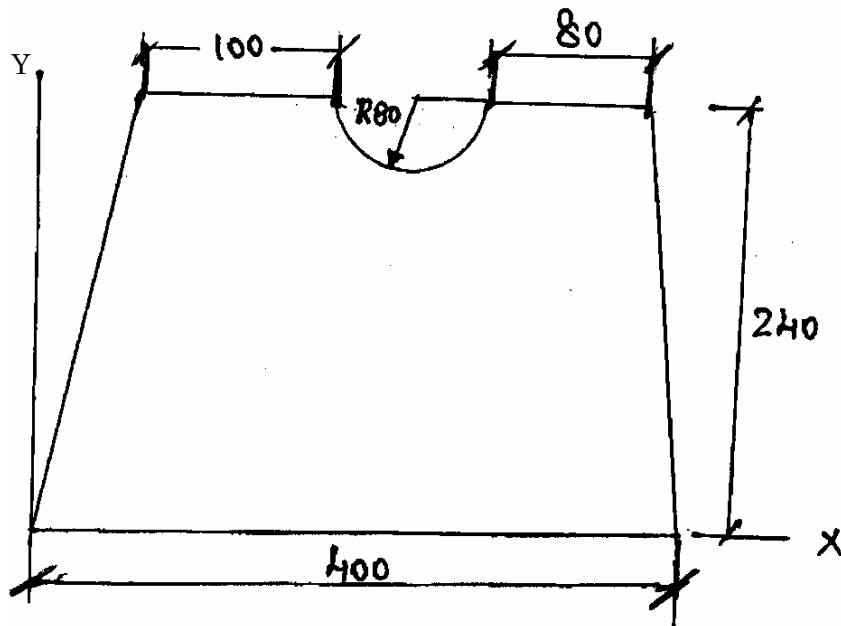

Fig. 4.
- (ii) Find the moment of inertia of the section shown in Fig. 4. about the centroidal axes. (Dimensions in mm)